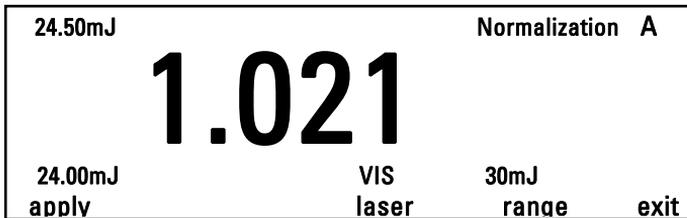

Figure 16
2. Press "go" and when ready to normalize, press "apply". From then on, the energy will be proportional to the normalized energy value (see Figure 16). If you wish to return to the the regular display, press "exit".